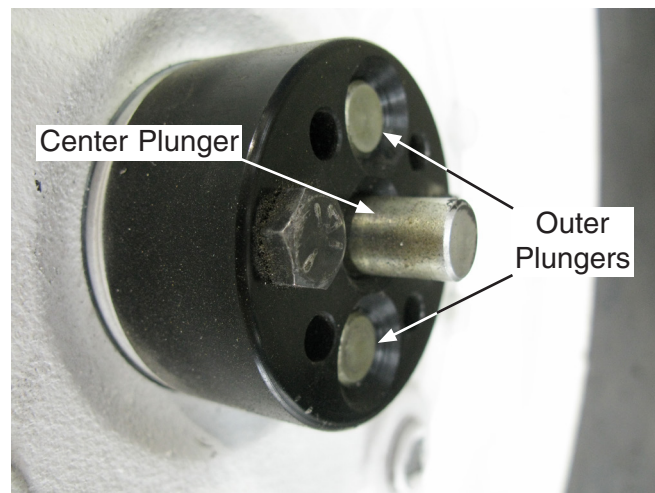
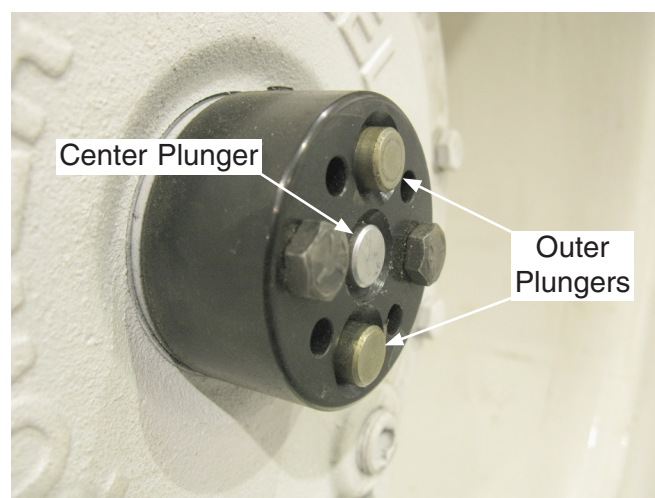

Figure 76. Planetary Drive Engaged
Figure 77. Planetary Drive Disengaged
3. Push in the center plunger to disengage the planetary drive (see Figure 76). The two outer plungers will extend and the center plunger will stay retracted (see Figure 77).
6. Push in the two outer plungers at the same time, to engage the planetary drive (see Figure 77). The center plunger will extend and the outer plungers will stay retracted (see Figure 76).